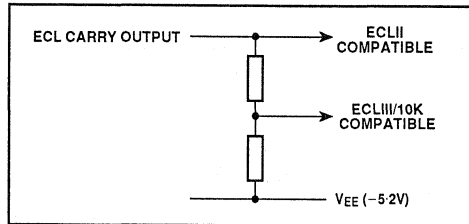

Fig. 7 ECLIII/10k interfacing
4. The ECL carry output (pin 9) is ECLII compatible but can be interfaced to ECLIII/10K by the addition of two resistors as shown in Fig. 7.